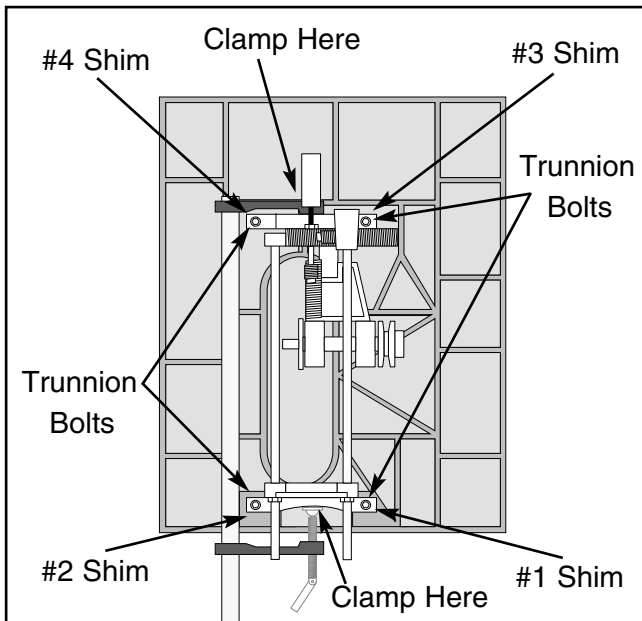

Figure 55. Underside view of table/trunnion assembly.
10. To maintain the trunnion assembly as one unit, place a bar clamp across the entire trunnion assembly as shown in **Figure 55**.
1. Loosen the trunnion bolts (**Figure 55**).